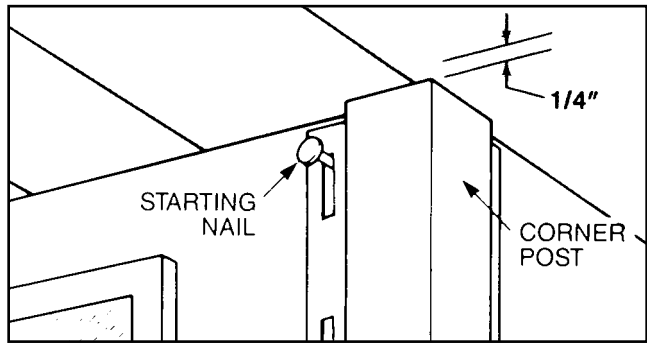

Fig 7.2
**3. CORNER POSTS** Measure down 1/4" from finished soffit at the top of the corner and install corner posts down to 2" below chalk line. Position a starting nail at the top of the first nailing slot (Fig. 7.2) and use a framing square and/or carpenter's level to keep the post at the correct angle while completing installation. Nail in the center of the remaining nailing slots spacing nails every 6" to 12". Be careful not to push, pull, jam, twist or in any other way distort the corner post as this will affect the performance and final appearance of the installation.